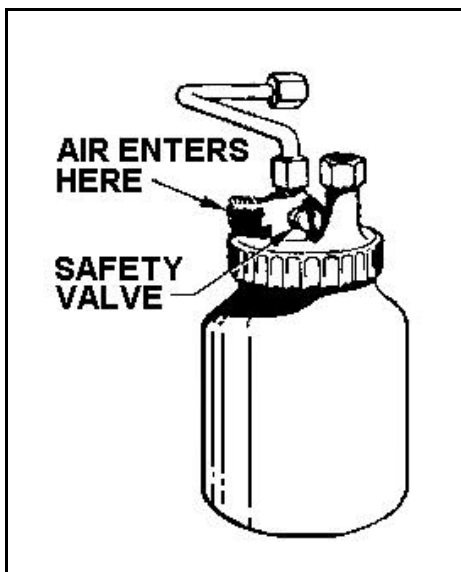

Figure 13-19. Pressure-Feed Cup
- Pressure-feed cups (Figure 13-19, page 13-30) are considered best for handling small quantities of enamels, plastics, or other heavy materials on jobs that need fine adjustments and speed of application.